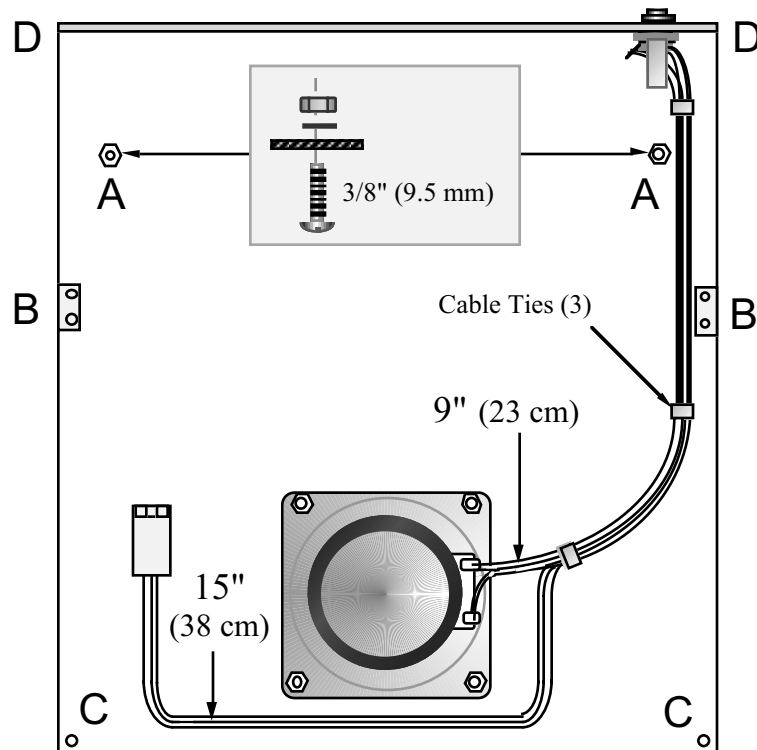
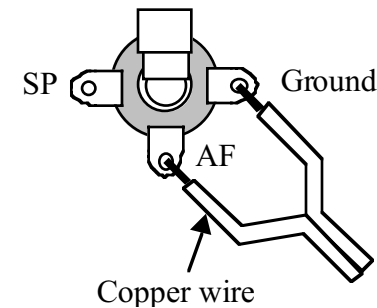

Figure 7-1
Figure 7-4
Place the top cover upside down as shown in Figure 7-1, with its rear panel facing away from you. The illustration shows how the speaker, 2-conductor cable, external speaker jack and other hardware will be attached to the top cover.
- Place #4 fibre washers (black) at each of the top cover's four speaker mounting holes (Figure 7-1). Trim the corners of the grille cloth so it just fits between the fibre washers, not touching them.
- Locate the two holes marked **A** in Figure 7-1. Use two 4-40 x 3/8" (9.5 mm) screws to fill these holes, securing them with #4 lock washers and 4-40 nuts. (The holes are for the battery option.)
- Install 2-D fasteners at the two locations marked **B** in Figure 7-1. The 2-D fasteners should line up exactly with the edges. Use two chassis screws per 2-D fastener.
Install the external speaker jack in the EXT SPKR hole. Orient the jack as shown in Figure 7-1 and Figure 7-4, with the "AF" tab nearest the inside of the top cover. (**Caution:** Misidentification of the three tabs could result in a ground short.)
Connect the other end of this cable to the external speaker jack as shown in Figure 7-4. The copper wire must be connected to the "AF" lug of the speaker jack. Solder only the copper wire.
Use three cable ties at the points shown in Figure 7-1 to hold the speaker cables in place. (Save the fourth cable tie for use with the supplied RF probe.) The ties should be pulled tight. Trim any excess cable tie length.
- Remove the masking material from the two top-cover mounting holes marked **C** in Figure 7-1.
- Cut through and peel off about 1/2" x 1/2" (12 x 12 mm) of masking material from around the top-cover mounting holes marked **D** in Figure 7-1. These holes are in the far corners of the top cover's rear panel, corresponding to screws **1** and **2** in Figure 7-6.